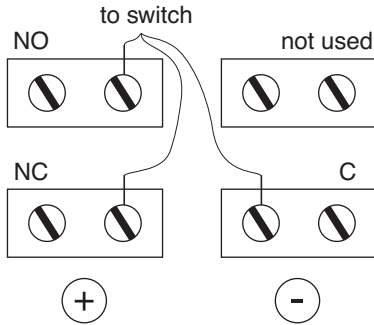

Figure 2
2. SPDT reed switch: Connect wiring to proper switch leads or terminals per wiring diagram. See figures 2 and 4.